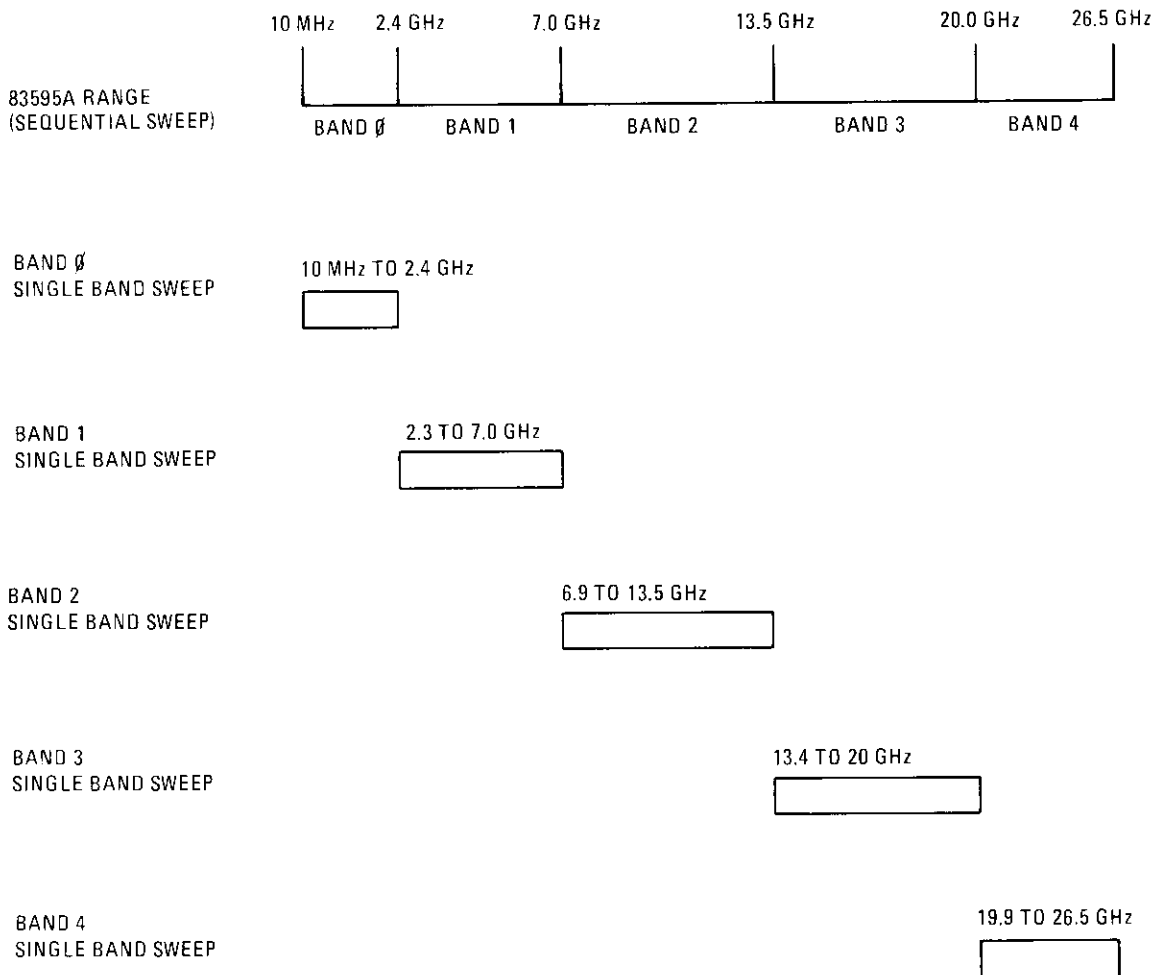

Figure 3-1. Bandswitching in Sequential and Single Band Sweep Modes
HP 83595A provides an RF output of 0.01 to 26.5 GHz in four bands. When you sweep a range of frequencies larger than a single band, the switching between these bands is done automatically. Figure 3-1 illustrates the bandswitching points in the sequential and single band sweep modes. Note that if you select sweep frequencies carefully, you can avoid potential problems associated with bandswitching such as harmonics, sweep time, stability, or switching discontinuities.
Figure 3-1 is a simplified block diagram of the frequency tuning circuits in the HP 8350. The net tuning voltage results from the summation of the three DAC outputs. With this DAC configuration the START/STOP sweep mode is computed by the microprocessor into a center frequency (CF) DAC and the vernier DAC, and the sweep width is determined by the  $\Delta F$  DAC.